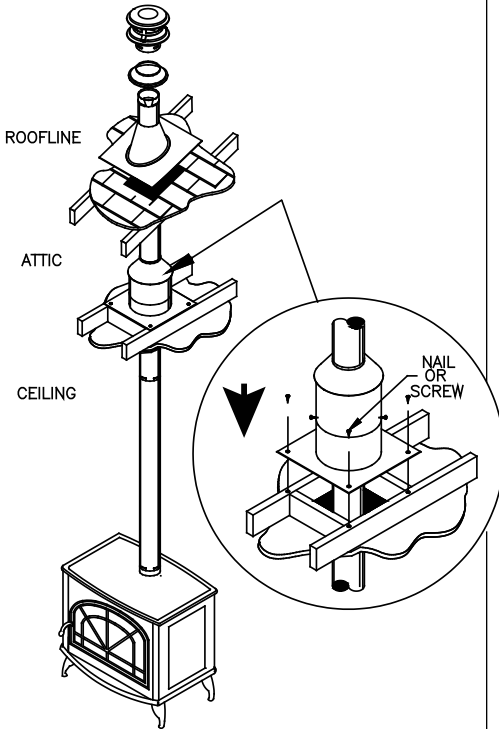

Figure 6
Secure Pellet does not require additional sealant to be used at pipe joints, but in certain circumstances sealant may be used if desired. Seal the inner liner overlap at the male end of pipe for best results (**Figure 6**)
G. When the Vent enters the attic, install an Attic Insulation Shield around the vent (**Figure 6**). This will prevent insulation and debris from collecting near the vent pipe. Use (4) nails or wood screws to secure the base of the Attic Insulation Shield to the framed opening. Adjust the height of the Attic Insulation Shield by sliding the top cylindrical shield over the one from the base. Ensure that the top of the Shield is above the level of building insulation. Secure the Shield in place with at least two (2) sheet metal screws through the side of the cylindrical shield. Attach collar around pipe, then lower to the top of the Attic Insulation shield.